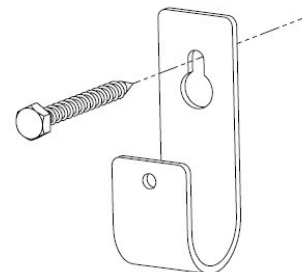

Fig.3
1. Fix the bracket to the wall at a suitable height and screw firmly into place (**Fig. 3**).